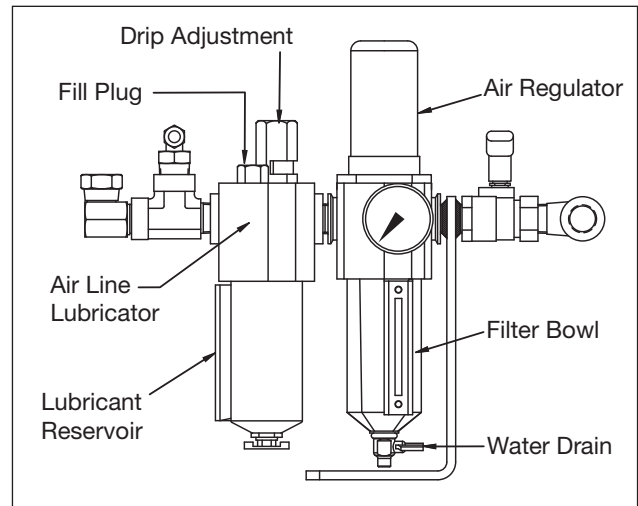

Figure 7, Air Line Lubricator and Filter/Regulator
6.3 Air Line Filter/Regulator (See Figure 7)
6.4 Air Line Lubricator (See Figure 7)